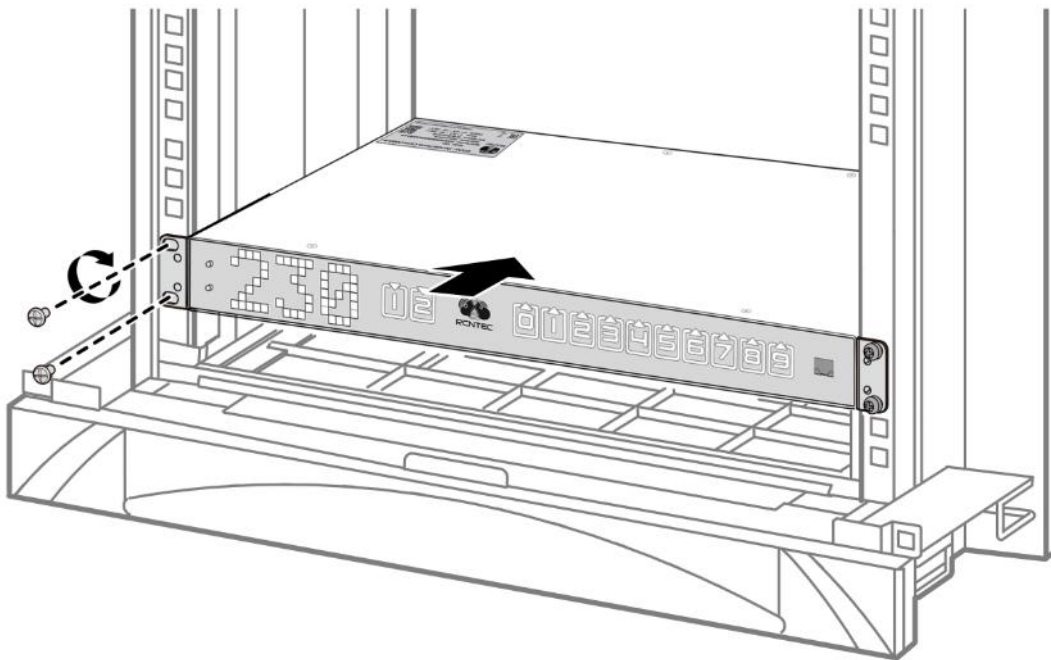

Figure 2.2.2. Mounting the Resilient Power Control Module (RPCM).
- 2 mount the module RPCM on the rack and secure it as shown in Figure 2.2.2;